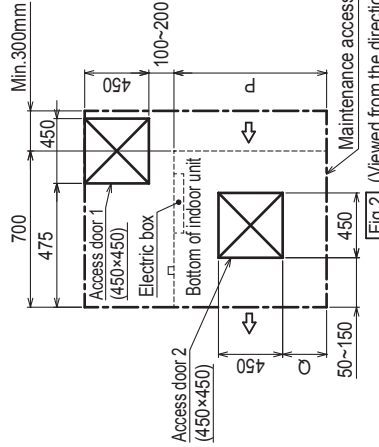

Fig.2 (Viewed from the direction of the arrow A)
- Create access door 1 and 2 (450×450mm each) as shown in Fig.2.
- (2) When a space of less than 300mm is available below the unit between the unit and the ceiling.
-Create access door 1 and 2 (450×450mm each) as shown in Fig.2.